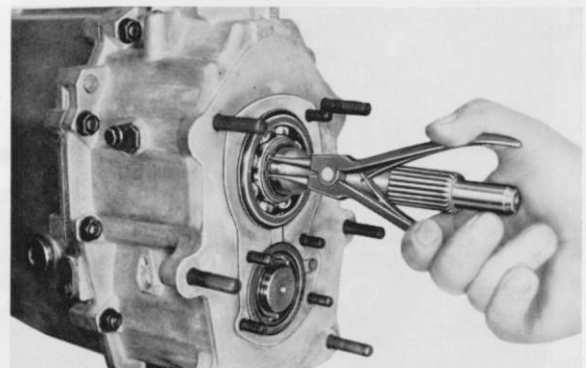

Fig. 10
2. Remove circlip (208) (Fig. 10) and take off spacer (209).
3. Dismantle spring ring. Pull off ball bearing (212) with tool .2.